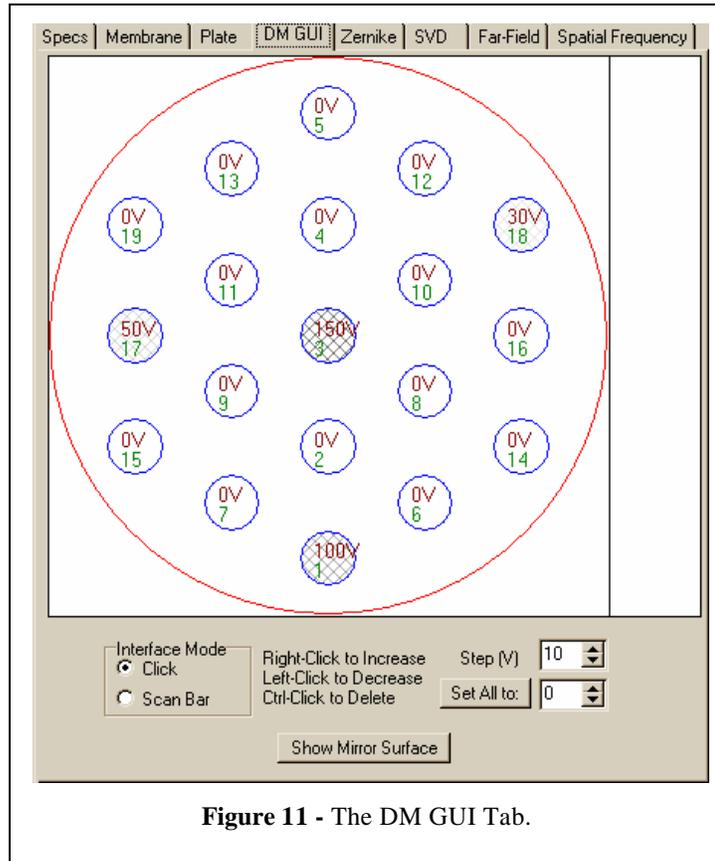

Figure 11 - The DM GUI Tab.
The **DM GUI** tab is shown in Figure 11. The voltage on each of the actuators can be adjusted either by right or left clicking on the actuators in the image or with a pop-up window with a sliding bar based on the selection in the **Interface Mode** section. If the **Click** radio button is selected, mouse clicks allow the user to change the voltage by the value in the **Step (V)** edit box on the bottom of the screen. Right-clicks are for increasing the voltage and left-clicks are for decreasing the voltage. If the **Scan Bar** radio button is selected, a scroll bar appears when the user clicks on an actuator and the voltage can be set on the bar. An actuator can be deleted by holding down the **Ctrl** key on the keyboard and clicking the actuator.